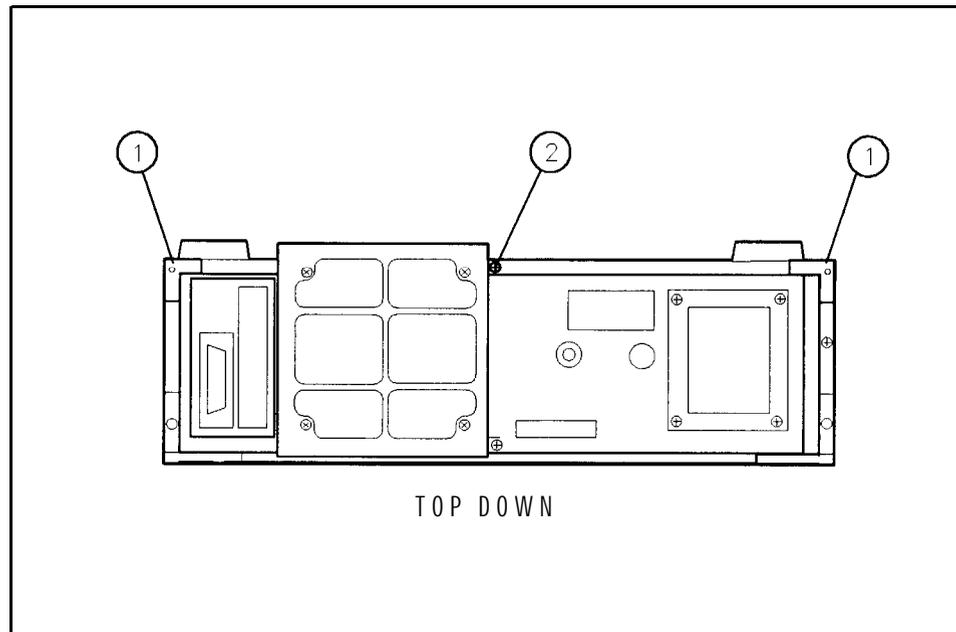

Figure 1-6. Removing the Bottom Cover
- Using a screw driver, remove the two bottom RF section rear panel bumpers. See callouts 1 in Figure 1-6.
- Back out screw 2 (Figure 1-6) causing the cover to unseat from the front frame. When the cover is clear of the front frame, lift the cover up to remove it.